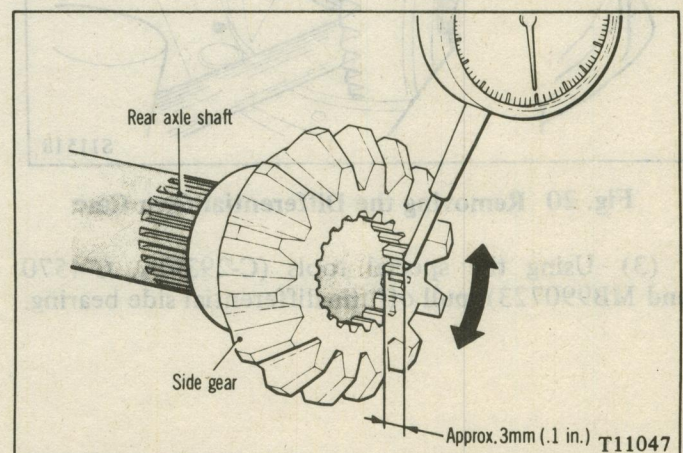

Fig. 26 Checking the Axle Shaft Spline for Looseness
(1) Check differential gear tooth contact. Replace any gear that is worn or damaged.
(2) Check the bearing race curvature for discoloration caused by seizure, and rough surface. Replace any bearing that is defective.
(3) Install the differential side gear onto the splined end of the rear axle shaft. Check for looseness using a dial indicator on the spline pitch circle. (Fig. 26)